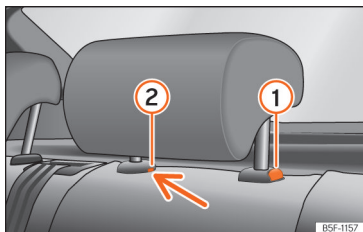

Fig. 112 Rear headrest: removal.
- Press button »» Fig. 112 ①, while simultaneously pressing on the security hole ② with a flat screwdriver a maximum of 5 mm wide, and remove the headrest.